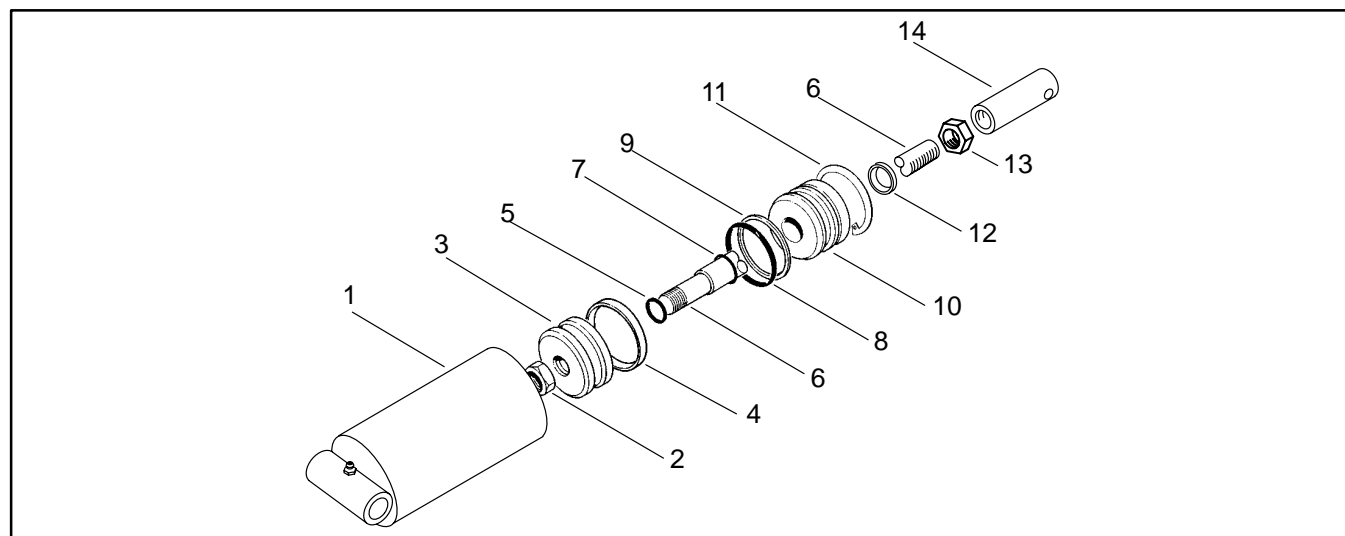

Figure 64
B. Remove cotter pin (11) from clevis pin (12). Slide clevis pin out of the lift arm (13) removing flat washers (14) (Fig. 64).
D. Loosen jam nut (13) and adjust rod clevis (14) as necessary (Fig. 64). Tighten jam nut.
Disassembly (Fig. 64)
Inspection (Fig. 64)**CAUTION**
Reassembly (Fig. 64)